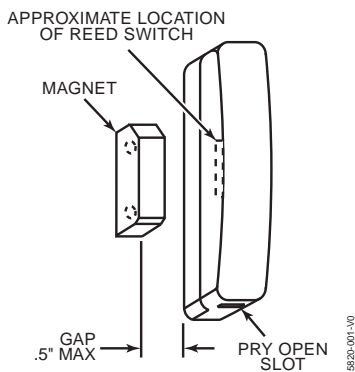

Figure 1. 5820 (Typical Installation Arrangement)
The description that follows assumes that the transmitter will be mounted as shown in Figure 1, with the magnet located adjacent to the unit's left side. The transmitter may, however, be installed in *any* direction, as long as the relationship of the unit to the magnet is maintained as shown in Figure 1.
2. If the *Go/No Go* test was ok, **remove the transmitter's cover** by inserting the flat blade of a small screwdriver into the slot at one end of the unit as shown in Figure 1, and pulling the cover up.
5. **Mount** the magnet (supplied) adjacent to the two vertical positioning lines on the case side (see Figure 1). The gap can be one-half an inch maximum.